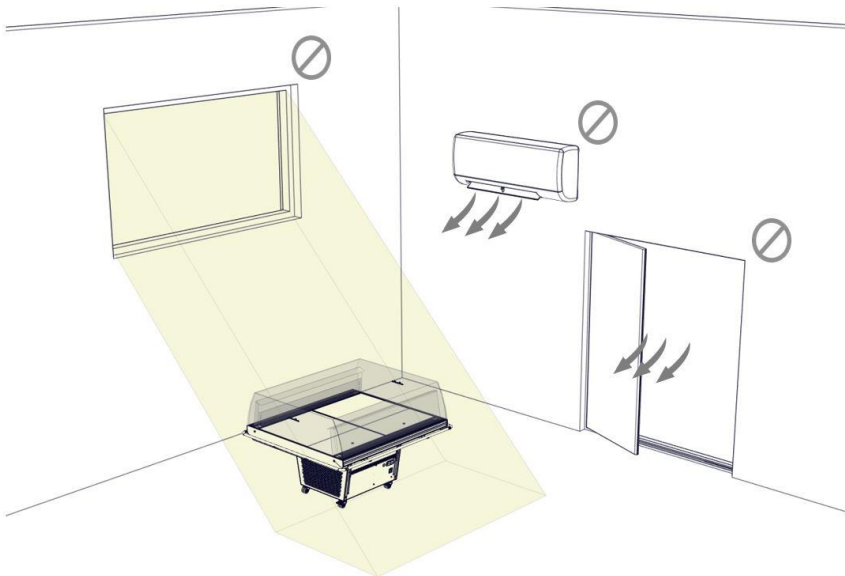

Fig. 6. Example of unsuitable ambient conditions
- It is forbidden to install the unit close to any heating equipment or any HVAC elements (air outlet, etc.) (**Fig. 6**).